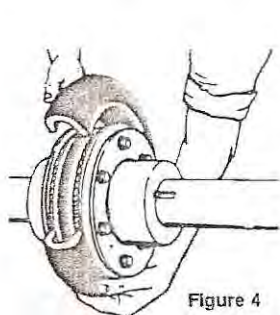

Figure 4
2. Wrap flexible element around flanges as shown in Figure 4. Make sure beads of element are fully worked down upon the seats. To ensure proper seating, rap around the tire's outside diameter with a small mallet until split is closed. Make sure element is evenly centered on the flanges.